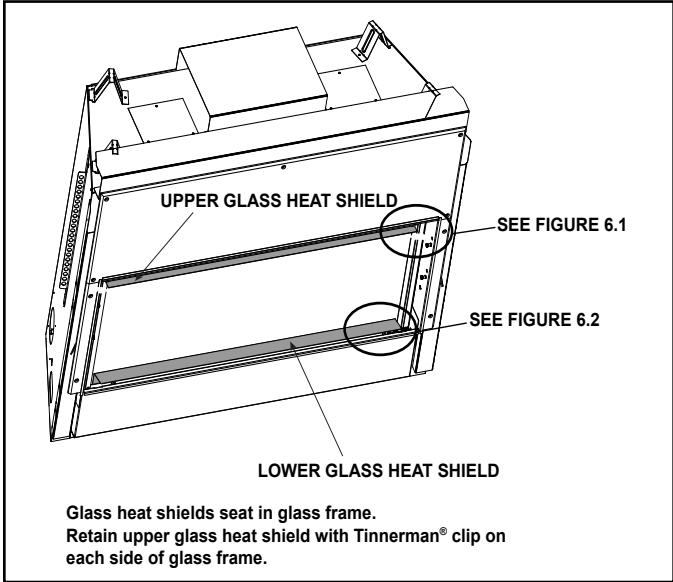

Figure 2. Heat Shield Installation
- 1. Install upper and lower glass heat shields in glass frame assembly as shown in Figure 2. Each heat shield will have “T” punched into it.